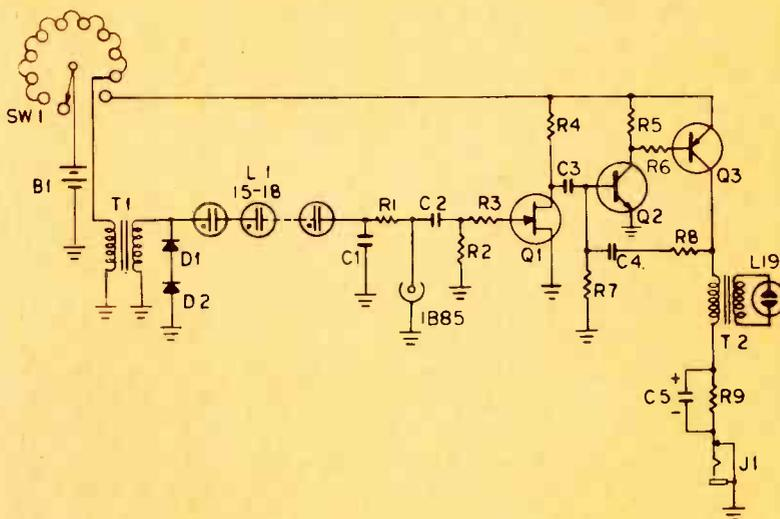
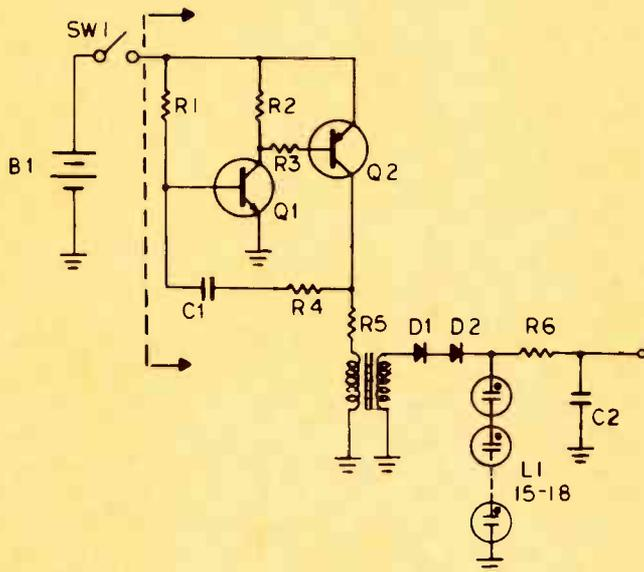
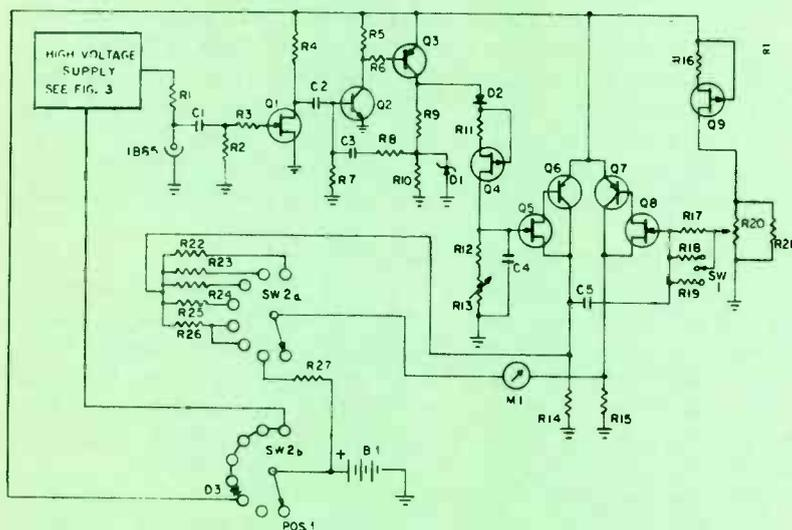

Fig. 1 Circuit diagram of circuit No. 1, a simple X-ray detection instrument.
Fig. 3 Oscillator high-voltage supply employed in circuit design shown in Fig. 4.
Fig. 4 Circuit diagram of Circuit No. 3, an X-ray detection device that provides more accurate measurement than the design shown in Fig. 1.
Parts List For Circuit In Fig. 1
A very simple instrument is shown in Fig. 1. High voltage is developed by repetitively operating switch SW1. The transformer T1 can be selected from a wide range of filament, output, input, and interstage transformers that may be found in "junk boxes". Any of those shown on the parts list is adequate. Several operations of SW1 should suffice to charge capacitor C1 to its terminal voltage. Once capacitor C1 is charged, it will power the 1B85 for about an hour at background rates and over 10 minutes at 4000 counts per minute. This allows ample time to check a television set for radiation emission.
A neon lamp and an earphone are shown in Fig. 1 for readout. Either or both may be used. The transformer T2 can be selected from a wide variety of types, some of which are shown in the parts list. The earphone is a low-impedance type generally sold with transistor radios, tape players, etc. Most speakers will also work quite well. Fig. 2 shows one way to assemble the meter and the method of mounting the G-M tube.
For those who prefer not to operate a switch to obtain high voltage, the circuit of Fig. 3 will prove useful. This is not the most efficient circuit, but it does permit flexibility in the selection of components. The free-running multivibrator, Q1 and Q2, is quite similar to the one-shot multivibrator (MV) shown in Fig. 1. In fact, the only difference is that R7 in Fig. 1 is deleted and replaced by R1 in Fig. 3. R1 is selected so that Q1 conducts slightly. This slight conduction sends a signal through Q1 collector to Q2 base and hence through Q2 collector back to Q1 base. This positive feedback action turns Q2 on hard until C1 is fully charged and positive feedback action stops, at which time Q1 and Q2 turn off and the cycle is repeated. The on-
Parts List For Circuit In Fig. 3
and off times of this circuit are not necessarily equal. With a fixed C1, the on time is determined primarily by R4 and the repetition rate by R1. The transformer is more critical than the one in Fig. 1 because Q2 cannot interrupt current as quickly as a mechanical switch nor can it supply as much current to the transformer as the switch.
All the circuits, including the one in Fig. 4, should be enclosed in and grounded to a metal box since they are sensitive to electro-magnetic fields, especially that caused by the horizontal output circuit in a television receiver. A rectangular hole is cut in the side so that the G-M tube is exposed. The hole should be $2\frac{3}{4}$ by $\frac{3}{4}$ inch. If any RF sensitivity is evident, the hole may be covered with one layer of aluminum foil glued in place. It is recommended the high-voltage section be located as far from the input circuitry as possible.
As previously mentioned, provision should be made on the circuit board for 18 NE2 lamps. The high-voltage circuit should work with all 18 lamps in series. The G-M tube should not be connected to the high voltage until the entire circuit is finished. At this time, 5 of the NE2 lamps should be shorted out with a jumper so that 13 are in series (applies to either version of the high-voltage circuit), the G-M tube should be inserted, and the circuit turned on (operate SW1 in Fig. 1 circuit). The high voltage should be too low, and there will be no output indicated on either the NE2 or earphone. The circuit should then be turned off, the jumper reconnected to place 14 NE2 lamps in series, and the circuit turned on. This should be repeated, increasing the number of neons by one each time until an output indication is obtained from background radiation. It will be necessary to wait up to 15 seconds to determine if the tube is counting since the background count rate is low and random. One more NE2 should be added in series after counting starts.
A word of caution: the high-voltage capacitor should not be shorted when it is charged and transistor Q1 (Figs. 1 and 4) is in the circuit. The resulting sudden change
The circuit shown in Fig. 4 is capable of more accurate measurement of G-M tube counting rate. The power supply shown in Fig. 3 is used to generate the high voltage. The transistor Q1 and monostable multivibrator Q2 and Q3 are as previously described except for a change in the collector circuit of Q3.
Parts List For Circuit In Fig. 4